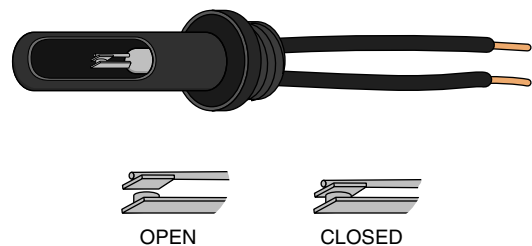

Figure 7-4 One type of recessed luminaire thermal protector.
When a Type Non-IC recessed luminaire gets overheated because of overlamping, mislamping, or being too close to thermal insulation, the thermal protector (Figure 7-4) trips off. When the luminaire cools down, it comes on again. This on-off cycling
To protect against the hazards of overheating, UL and the NEC® in 410.115(C) require that recessed luminaires be equipped with an integral thermal protector, as in Figure 7-4. These devices will cycle on